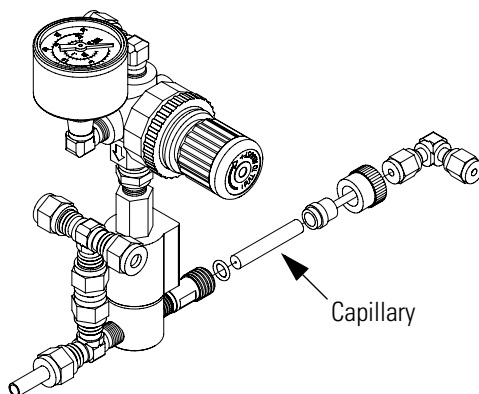

Figure 5-3. Replacing the Pressure Regulator Capillary
Use the following procedure to replace the pressure regulator capillary (Figure 5-3).
2. Unscrew the knurled fitting, separate the components, and remove the capillary (Figure 5-3).